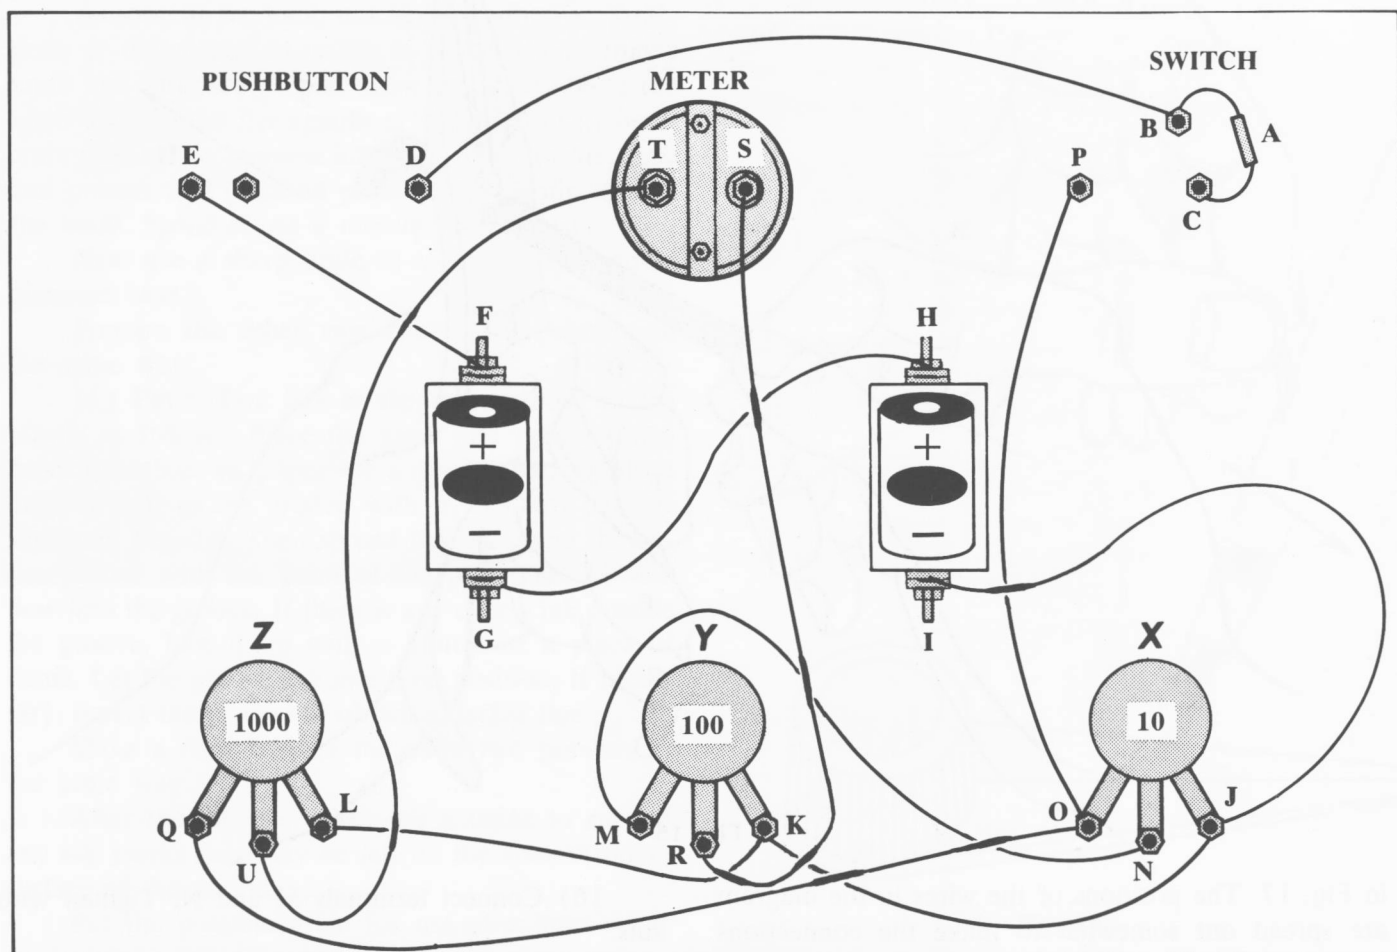

Fig. 17
in Fig. 17. The positions of the wires in the diagram are spread out somewhat to make the connections easier to follow. Make the wires as short as possible, but avoid contact with other metal parts.
13) Your kit contains a small *resistor* (A in Fig. 17). Clean the end of its wire with steel wool to remove any wax or grease. Connect either end to terminal B (of the switch) and the other end to Terminal C (Fig. 17). Connect a wire from B to D. Place nuts on the bolts at B, C, D, and tighten firmly.
14) Connect a wire from the push button at E (either bolt) to the (+) of the flashlight cell at F. Connect a wire from the (-) end of the cell (G) to the (+) end of the second cell (H). Connect a wire from the (-) end of the second cell (I) to terminal J of the 10 ohm pot (X). Tighten with nuts at E, F, G, H, and I, but not at J.
17) Connect one wire from terminal O of the 10 ohm pot (X) to terminal P of the switch. Tighten terminal P with a nut. Connect a wire from terminal O to Q. Tighten both terminals with nuts.
18) Connect terminal R of the 100 ohm pot (Y) to S of the meter. Tighten both ends firmly.
19) Connect a wire from T of the meter to U of the 1000 ohm pot (Z). Tighten both ends firmly.